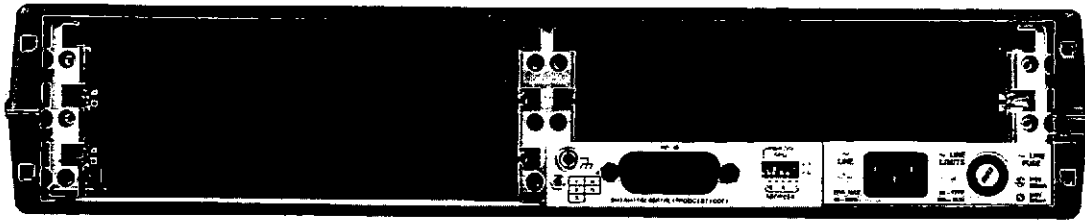

Figure 10-5. Rear Panel View of the 3488A
- c. Select a slot. Refer to Figure 10-5, the 3488A has five slots for installing option assemblies. The 44474A can be used in any of the five slots.